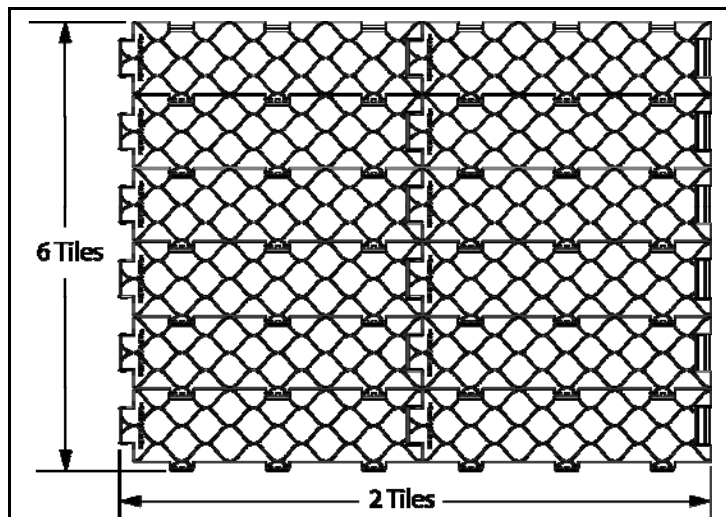

Figure 9
2. Measure and mark the length at 100' along each column to store in rolls. For storage on pallets, separate columns into sheets 2 tiles by 6 tiles (see Figure 9).